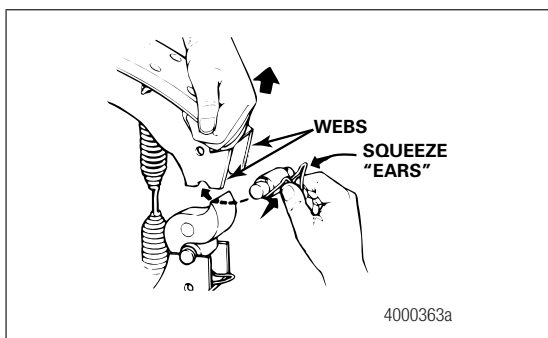

Figure 5.16
4. Pull each brake shoe away from the camshaft to enable you to install the brake shoe roller and roller retainer. Press the retainer ears to fit into the retainer between the brake shoe webs. Figure 5.16.